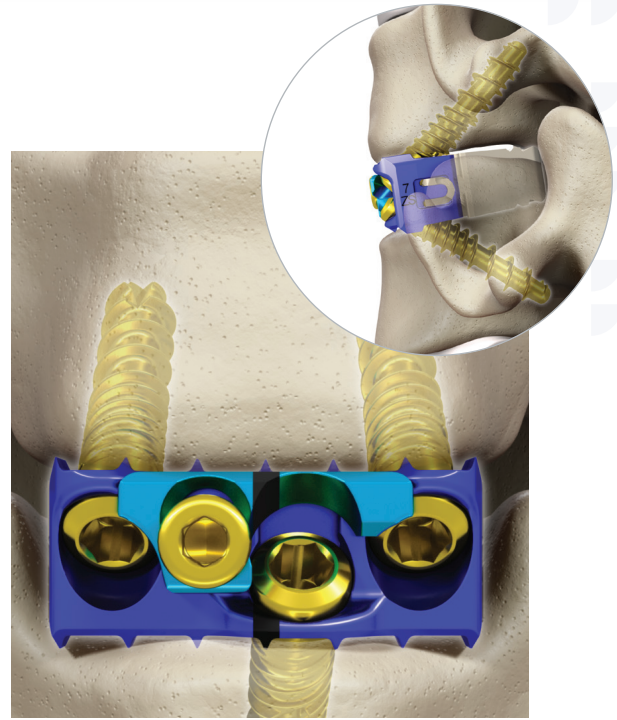

Figure 61
- Completely engage the 2.0 mm hex driver in each screw head and fully seat all bone screws (Figure 61).